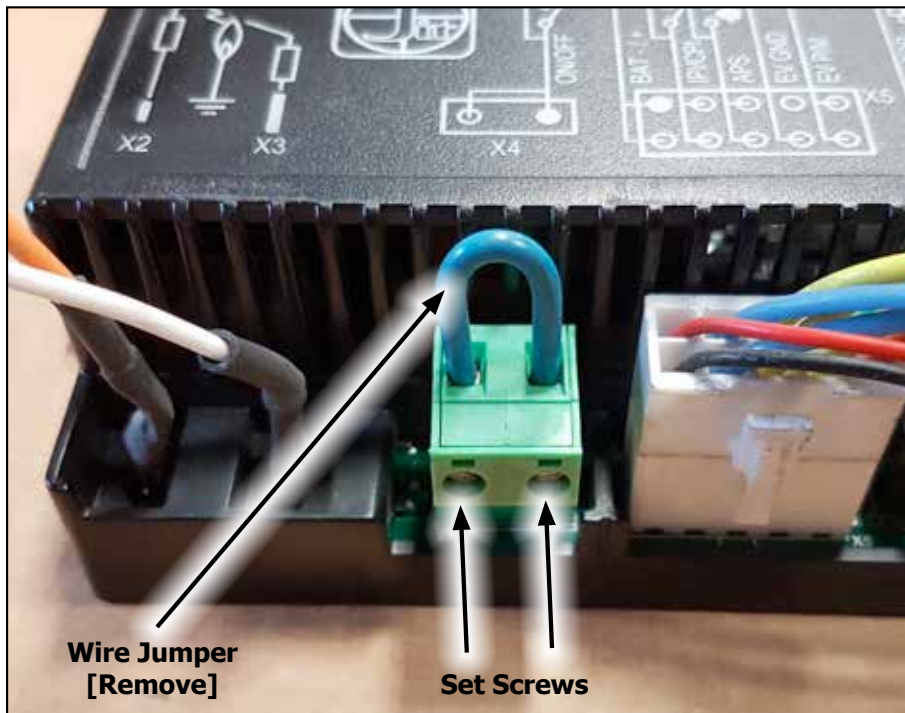

Figure 43: ON/OFF Terminal Block on IFC
Step 3: Remove the ON/OFF terminal block from the X4 port on the IFC (Figure 43).
2. Disconnect the spill switch wires from the IFC (see Figures 43 & 44).